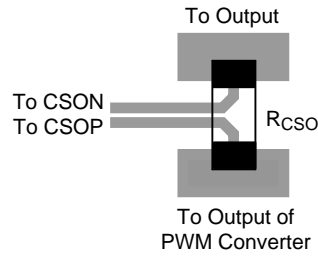

Figure 5. Kelvin Connections for the Rcs0
- ▶ Connect the capacitor (between the CSOP and CSON pins) close to these pins. The paths of CSOP and CSON must be directly connected to the terminals of current-sense resistor (RCSO) using Kelvin connections as shown in the layout shown in Figure 5.